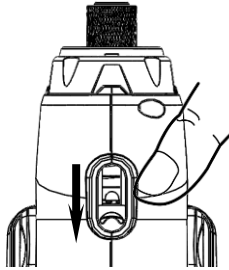

Fig.2
1. Open the torque adjust cover (see Fig.2).